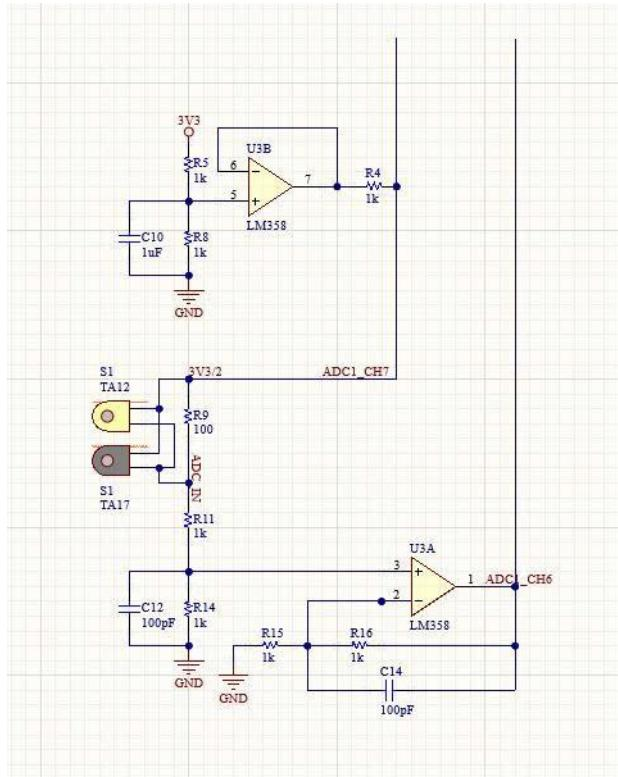

Figure 1.5: Our ADC Input
In this sensor part, we use two opamps which are packed in one IC LM358. IC LM358 includes two opamps. We use one to create a reference voltage, while we connect the second opamp with two current sensor TA12 and TA17 as shown in Figure 1.5.
6.1.3. In Figure 1.5, what is the voltage of ADC1_CH7? of ADC1_CH6?
6.1.4. In Figure 1.5, we apply a low pass filter to the signal ADC_IN. What is the cutoff frequency of this low pass filter? If we want to set a cutoff frequency is about 10kHz, what should we change in the circuit of U3A?